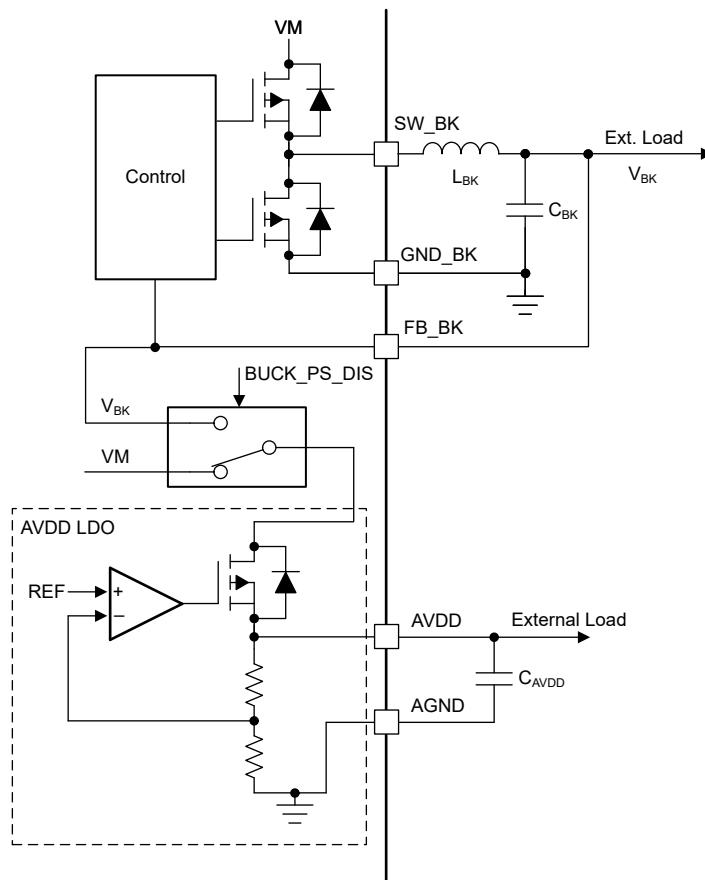

Figure 6-7. AVDD Power Sequencing from Mixed Mode Buck Regulator
The AVDD LDO has an option of using the power supply from mixed mode buck regulator to reduce the device power dissipation. The power sequencing mode allows on-the-fly changeover of AVDD LDO input from DC mains (VM) to buck output (V_BK) as shown in Figure 6-7. This sequencing can be configured through the BUCK_PS_DIS bit. Power sequencing is supported only when buck output voltage is set to 5V or 5.7V.